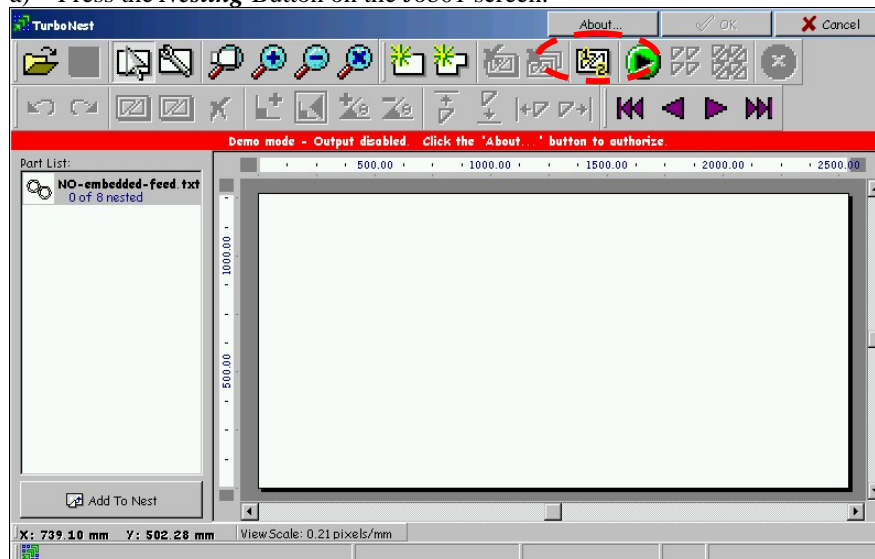

Figure 2 – The TurboNest Screen
- b) The TurboNest program will be displayed as above (Fig 2).